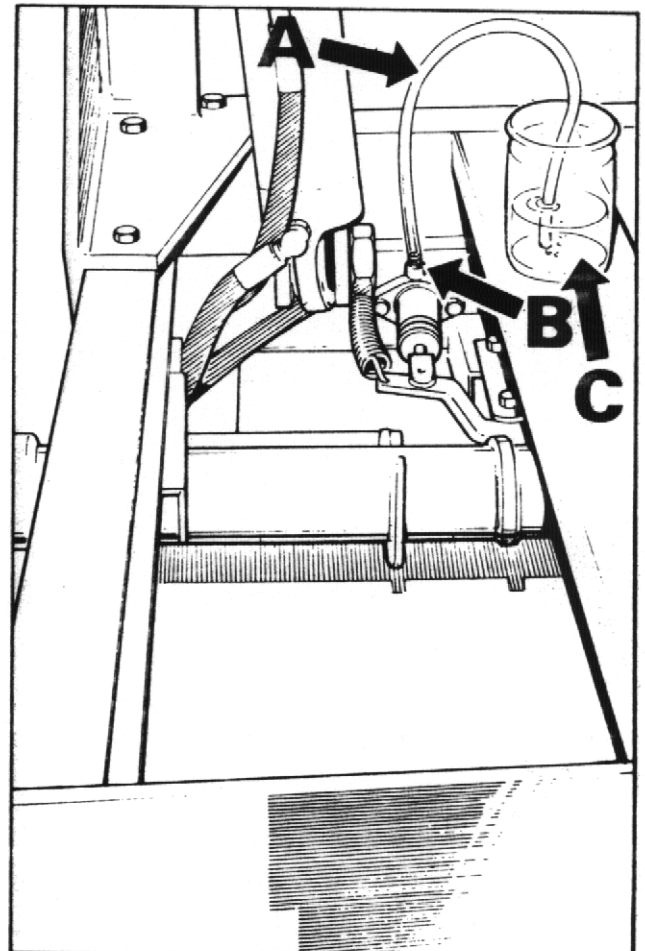

FIG. 8
3. Attach bleeder tube (A) (See Fig. 8) to the bleed screw (B) on the front slave cylinder, immerse the other end of the tube in a small quantity of brake fluid contained in a glass jar (C). Slacken bleed screw and operate brake pedal up and down to its full stroke until fluid pumped into the jar contains no air bubbles. Hold pedal down and close bleed screw. Remove bleeder tube and release pedal.